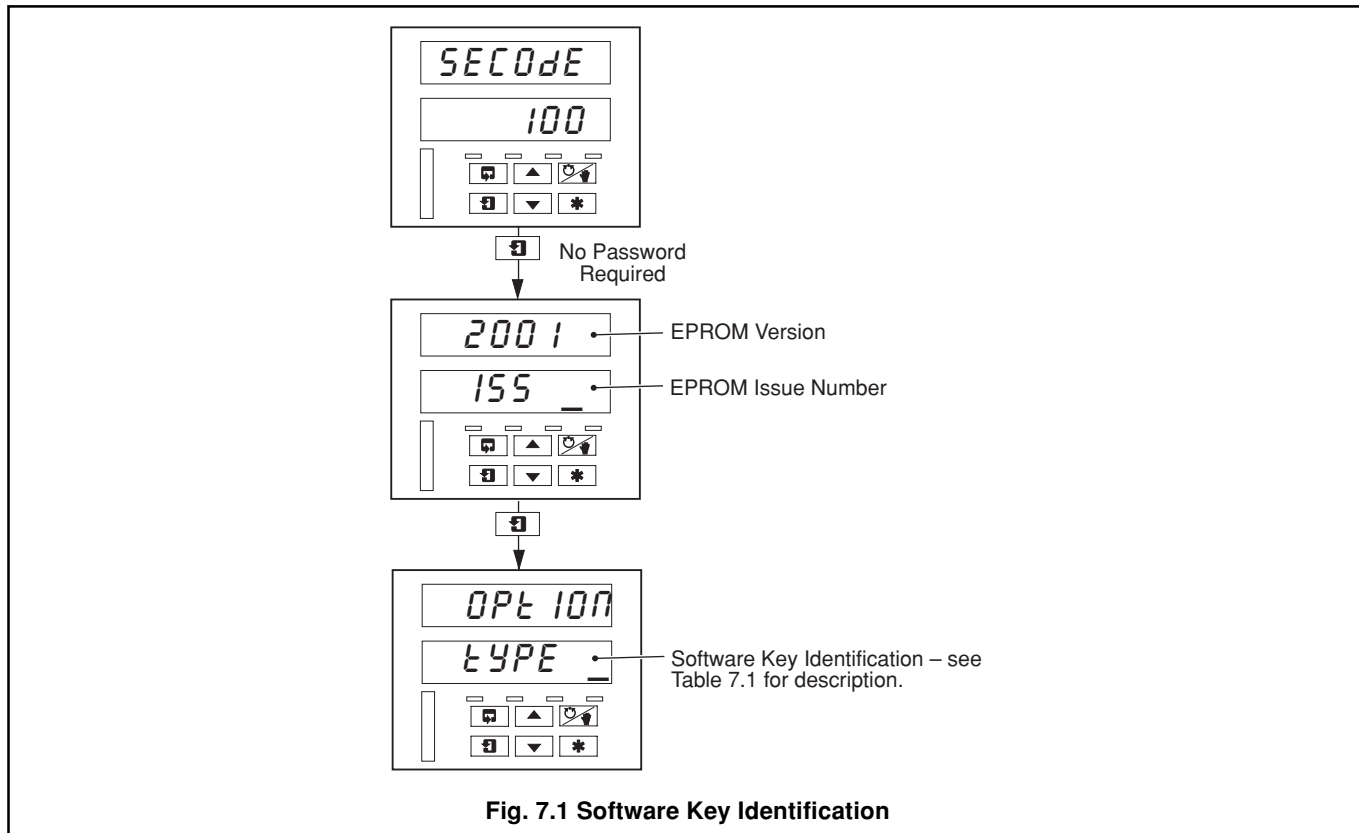

Fig. 7.1 Software Key Identification
7.1 Software Key Identification – Fig. 7.1